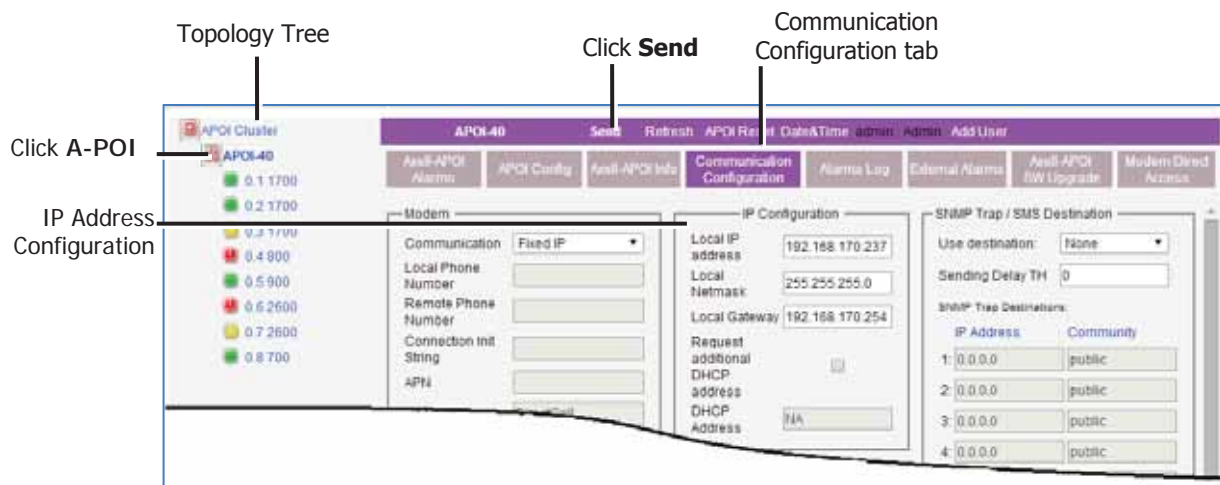

Figure 6-27. IP Address Configuration
- In the **Main** window, **Topology Tree**, click **A-POI** and select the **Communication Configuration** tab (see Figure 6-27).